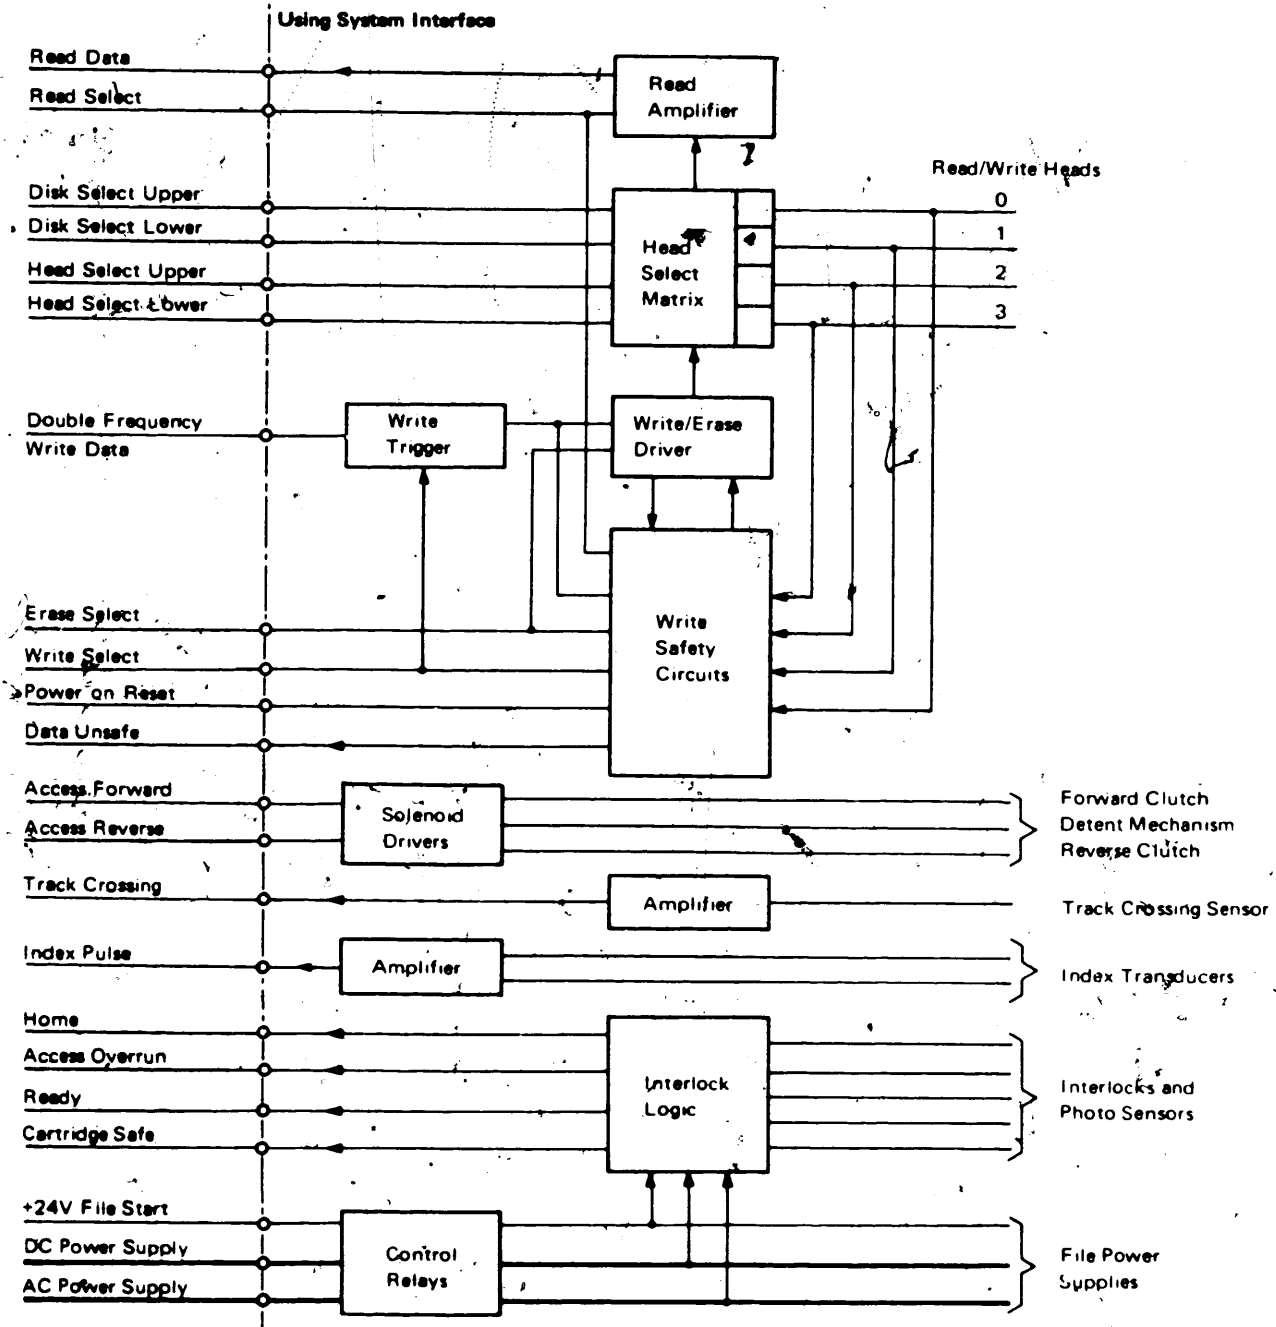

Figure 1-39. Data Flow and Control [07499]
- A total of 23 communication lines are connected between the 5444 and the using system (Figure 1-39).